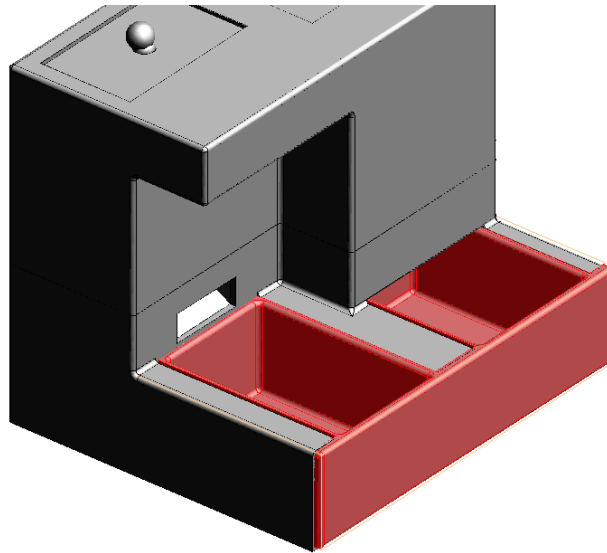

Figure 6 Feeder Device, water and food bowls
3. **Water and Food bowls**, part of the **Feeder Device** where the pet's food and water will be for the animal dispose, Fig.6.